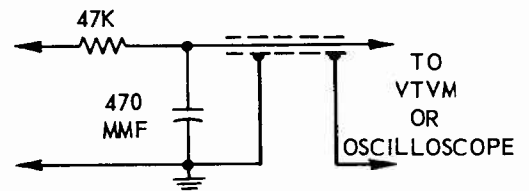

Figure 11. Decoupling network.
2. **Oscilloscope and VTVM** – Use direct probe terminated with decoupling network shown in Figure 11.